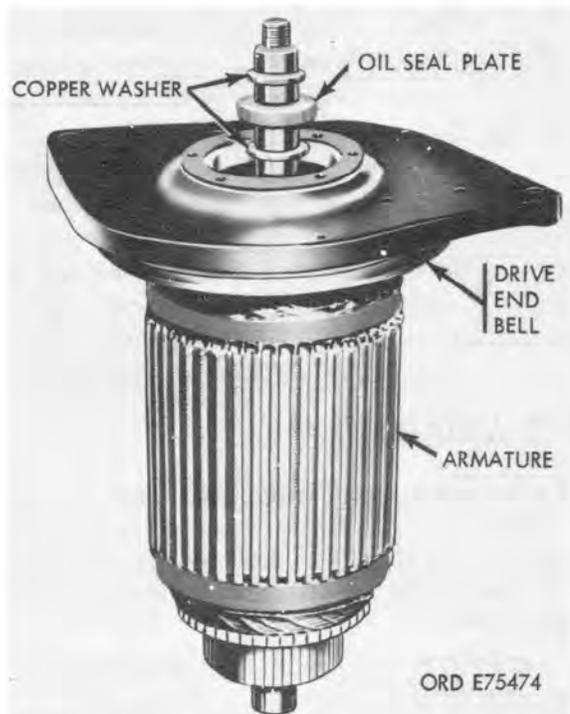

Figure 4-23. Installing washers and spacer.
c. Install copper washer (step 3, fig. 4-5), oil seal plate and copper washer on shaft as shown in figure 4-23. Position components against bearing using improvised end bell bearing installing tool.